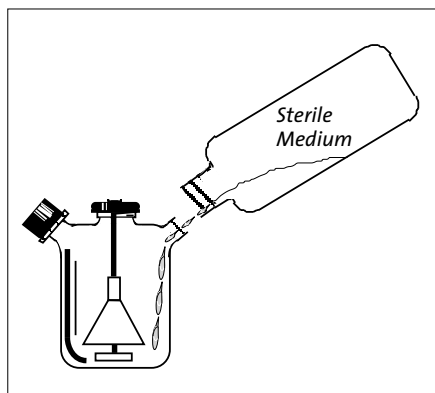

Figure 29. Small vessel being filled through a sidearm
2. Introduce medium by pouring from pre-sterilized bottles or bags containing medium by gravity-feed or peristaltic pumps as shown in Fig. 29.